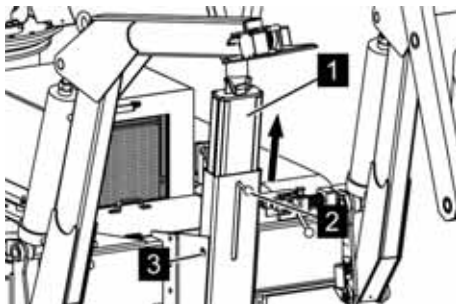

Fig. 76: Lifting the telescopic arm attachment
4. ➤ Pull the telescopic arm attachment (Fig. 76/1) upwards on the handle (Fig. 76/2) until the holes (Fig. 76/3) meet.